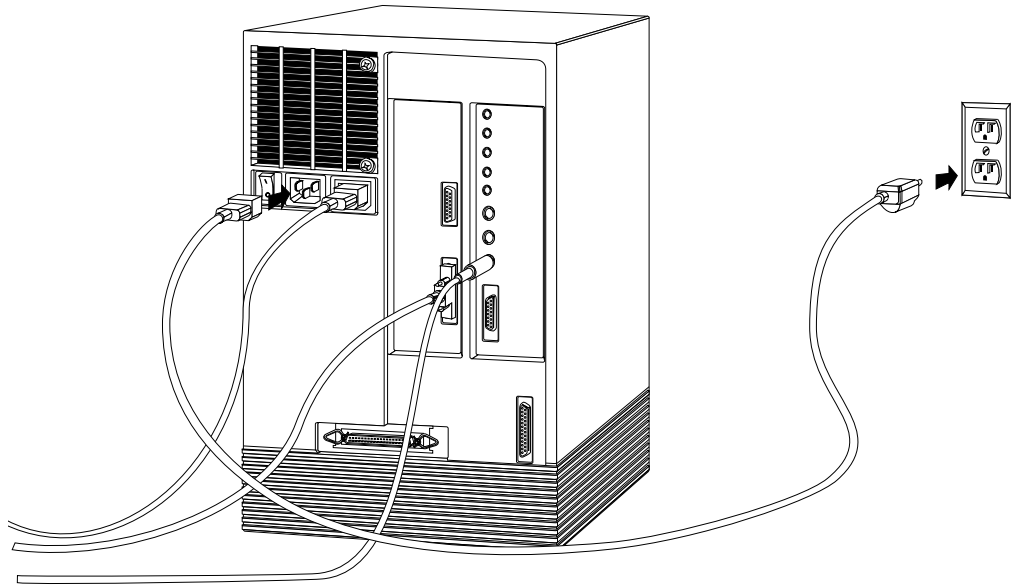

Figure 2-13 Connecting the Power Cable
10. Connect the system power cable, as shown in Figure 2-13.
- Plug the male end into a three-prong grounded electrical outlet, as shown in Figure 2-13.